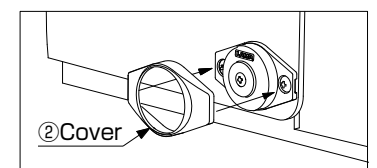

fig.11
- (3) ②カバーを①ダンパー本体に被せて押し込み、固定します(図11)。
- (3) Put the cover on the damper body and push it to fix (Fig11). Push the cover until tabs inside click into place.